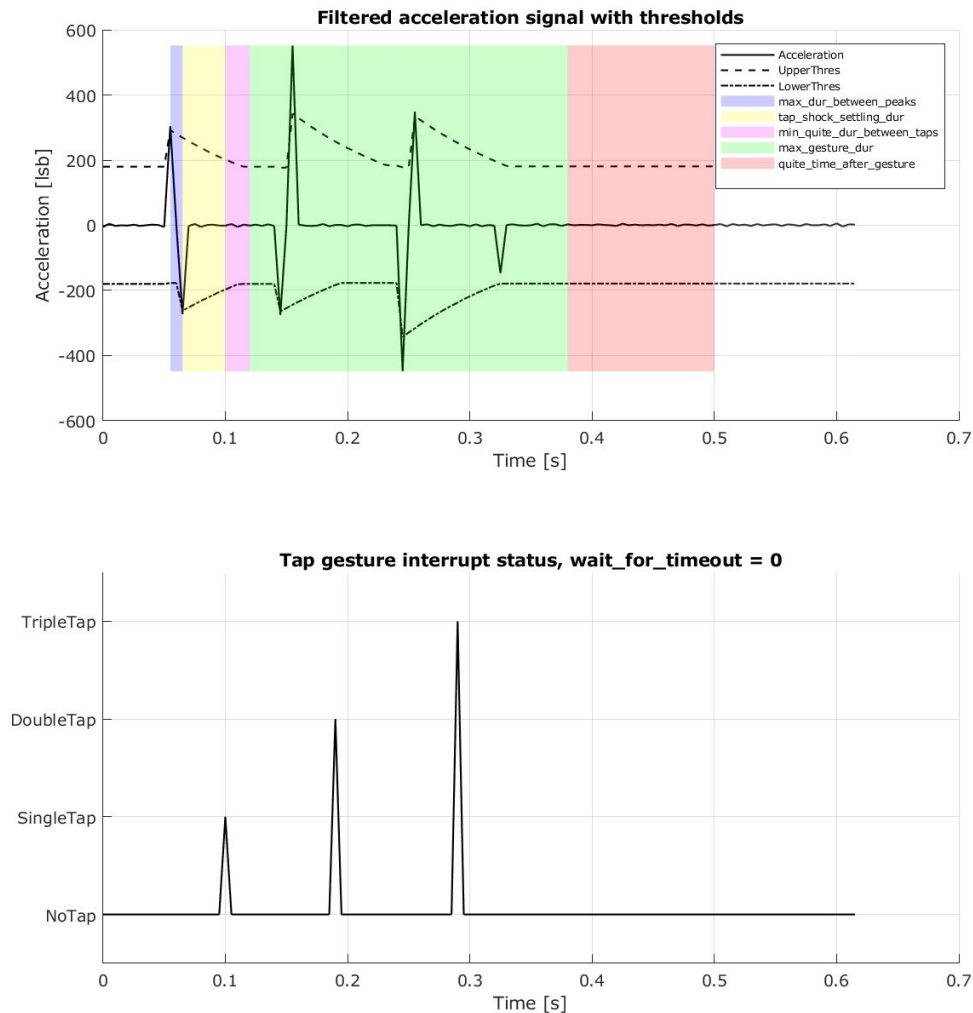

Figure 25: Reporting of tap gesture when TAP\_DETECTOR\_1.wait\_for\_timeout = 0b0
**Example** To illustrate the working principle of the tap detector, following diagrams are provided. figure 25 shows the behavior of the tap detector with all supported tap gestures enabled and with TAP\_DETECTOR\_1.wait\_for\_timeout set to 0b0 . For every detected tap, the corresponding interrupt is reported if the taps occur within TAP\_DETECTOR\_2.max\_gesture\_dur since the first tap.